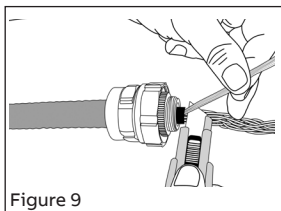

Figure 9
- Remove filler materials. Do not disturb/damage inner shields (Figure 9).